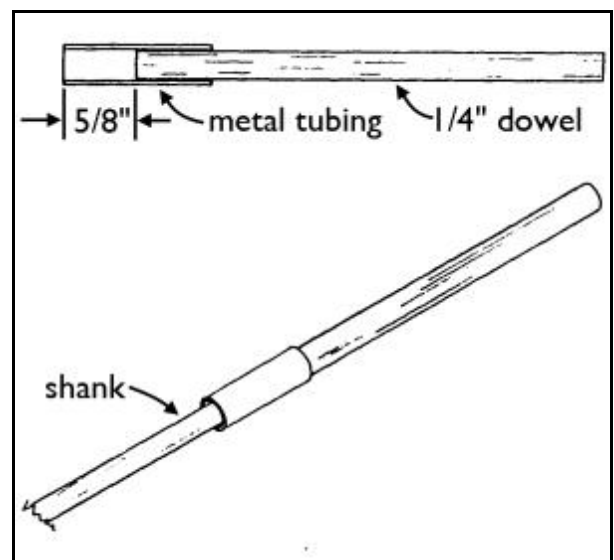

Figure 13: Hammer shank glue applicator
2. Gluing: Both hot hide glue and yellow wood glue are suitable. Always apply glue to *both* hammer and shank to ensure a strong joint. The device in Figure 13 makes it easy to thoroughly coat the shank.